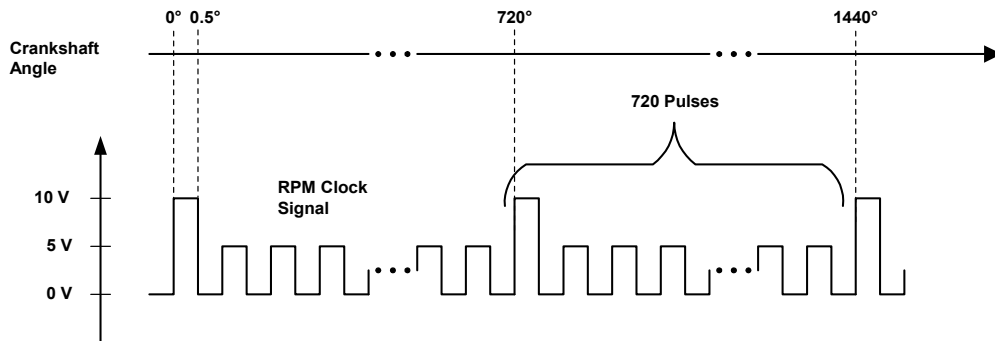

Fig. 8-8 Angle clock signal to synchronize to 0° camshaft and calculate the angle position of the engine
This information is determined by the ES1334.1 from the angle clock signal supplied on the front panel via the "SYNC" input. The angle clock signal (see Fig. 8-8) is generated by an ES1332.1 Arbitrary Signal Generator Board and makes it possible to synchronize to 0° camshaft and calculate the angle position of the engine.
- of the angle clock signal (see Fig. 8-8 on page 151) or